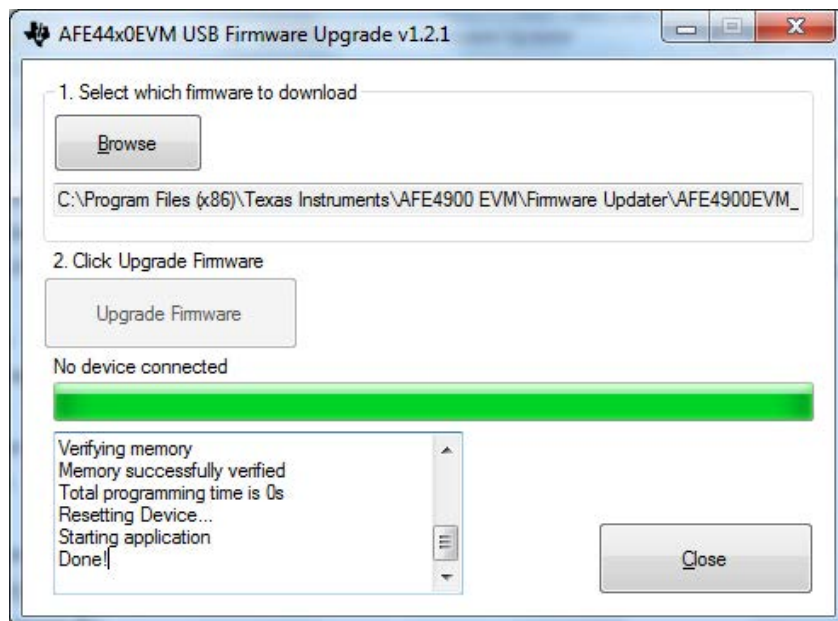

Figure 51. PC Application Firmware Upgrade – 4
- Once the device is programmed successfully, as shown in Figure 51, the device resets and reloads with the new firmware. Close the *Firmware Upgrade* application by clicking on the **Close** button and the PC GUI application automatically restarts the GUI after 4–5 seconds.